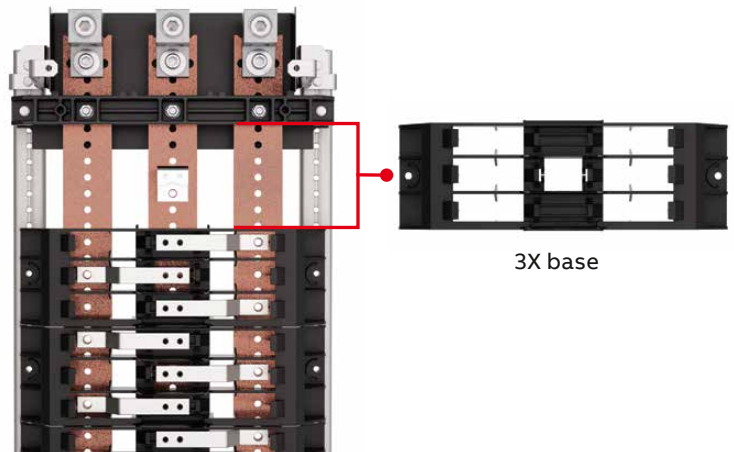
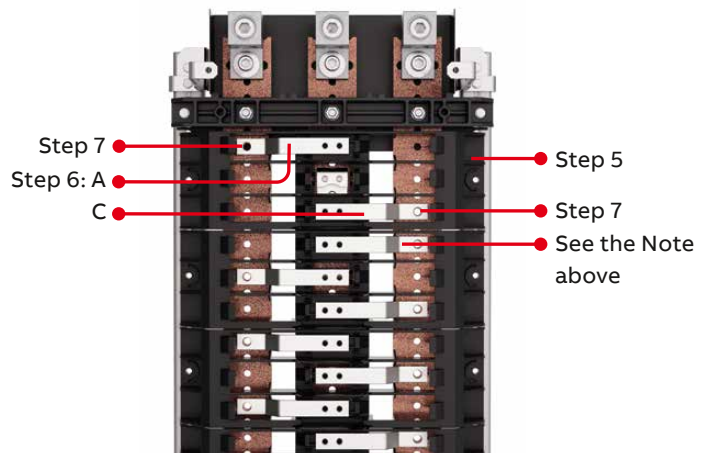

Figure 2. Step 2.
Figure 4
- Step 2: Remove quantity (1) 3X base. See Figure 2.
- Step 3: Add B-phase strap using (1) 1/4 x 20 screw removed from A or C strap
- Step 5: Replace 3X base. See Figure 4.
- Step 6: Replace A and C phase straps using 1/4 x 20 screws. See Figure 4.